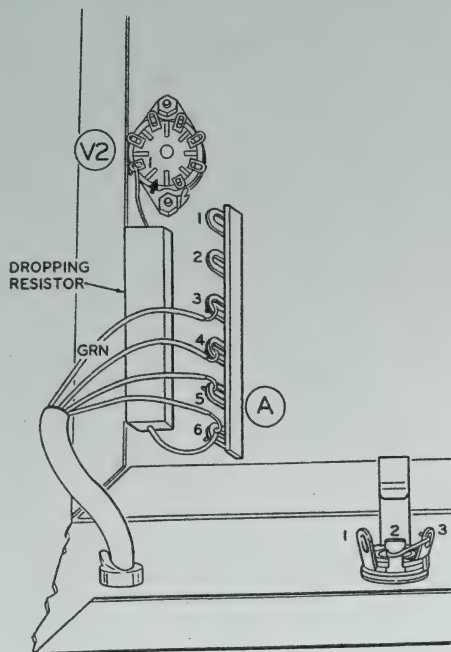
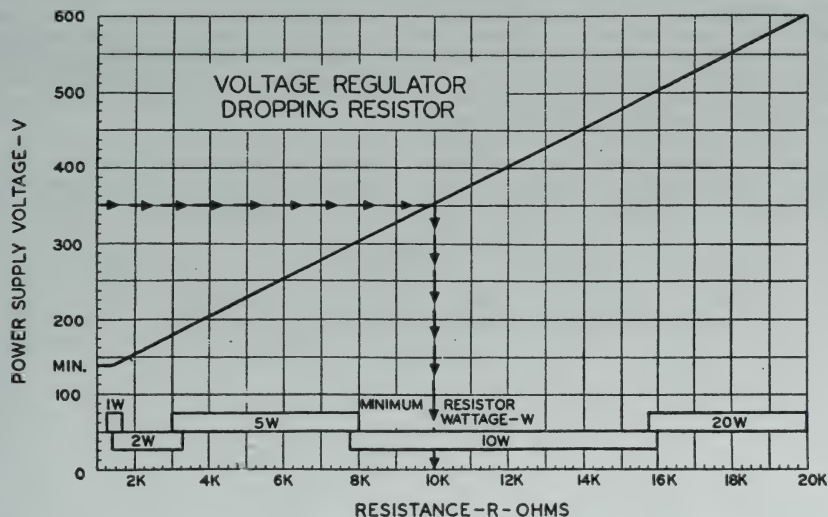
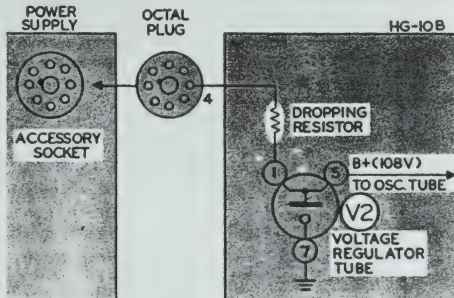

Figure 1
Figure 2
Figure 3
- () Disconnect the green wire of the power cable from lug 2 of terminal strip A, then reconnect this wire to lug 3 of terminal strip A. See Figure 1.
- () Clip out the bare wire connected between lugs 2 and 3 of the KEY jack. See Figure 1.
- () Referring to Figure 1, disconnect the green wire of the power cable from lug 2 of terminal strip A, then reconnect this wire to lug 3 of terminal strip A.
The value of the B+ voltage applied to the voltage regulator tube in the VFO is critical. For this reason, the value of the Dropping Resistor in series with the VR tube must be chosen to provide the correct voltage. The chart in Figure 2 should be used to determine the correct resistance and wattage of the Dropping Resistor. For example: If the B+ available from the transmitter is 350 volts, draw a line from the
350 volt point on the vertical scale across to the diagonal line of the graph. Then draw a line down from the point of intersection, to the horizontal scale. The point at which this line crosses the horizontal scale indicates the resistance value and wattage for the Dropping Resistor. This example is shown by the line of arrows on Figure 2. Do not use smaller resistance or wattage values. The correct Dropping Resistor should be installed in the VFO as shown in Figure 1. The 10 K Ω , 10 watt resistor, already in the VFO, should be removed. Figure 3 shows the VR tube and Dropping Resistor circuit schematically.